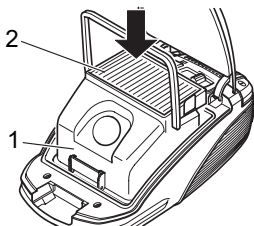

Fig. 22
2. Check whether the B-Box (Fig. 22/1) is closed and the laminar filter (Fig. 22/2) is correctly positioned.